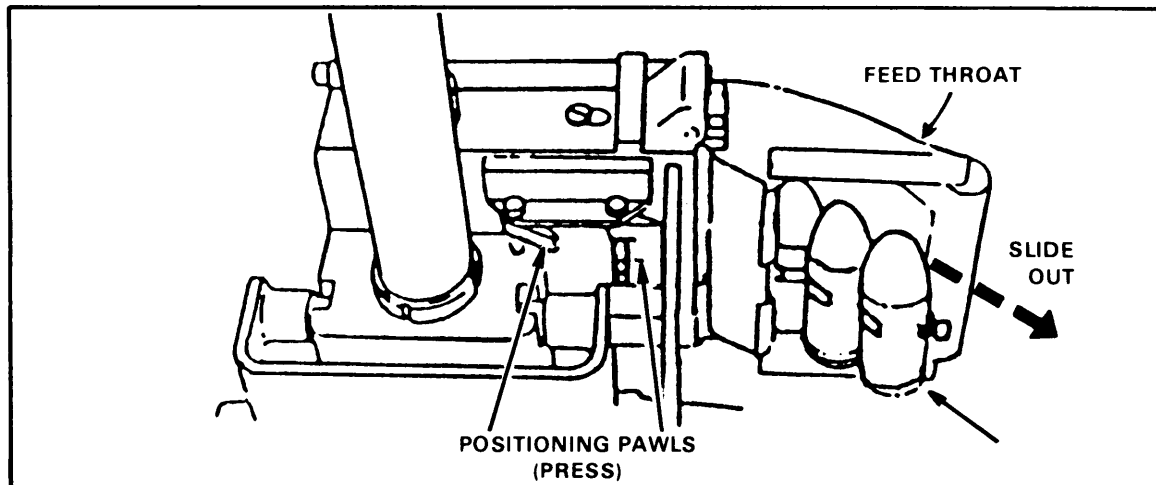

Figure 2-3. Removal of linked rounds from feeder.
(3) Take the ammunition from the feed tray by reaching beneath the feedtray and pressing the primary and secondary positioning pawls. At the same time, slide the linked rounds out of the MK 19 through the feed throat (Figure 2-3).